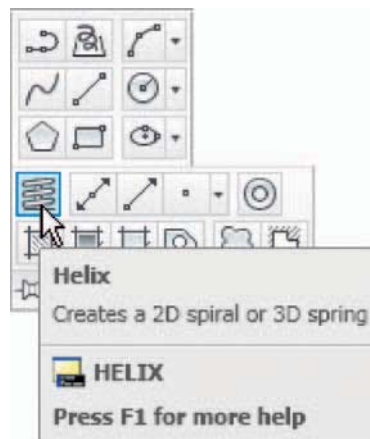

Fig. 14.36 The **Helix** tool in the **Home/Draw** panel
1. *Click* the **Helix** tool icon in the **Home/Draw** panel (Fig. 14.36). The first of the **DYN** prompts appears. *Enter* the following at the command line using the **down** key of the keyboard when necessary.